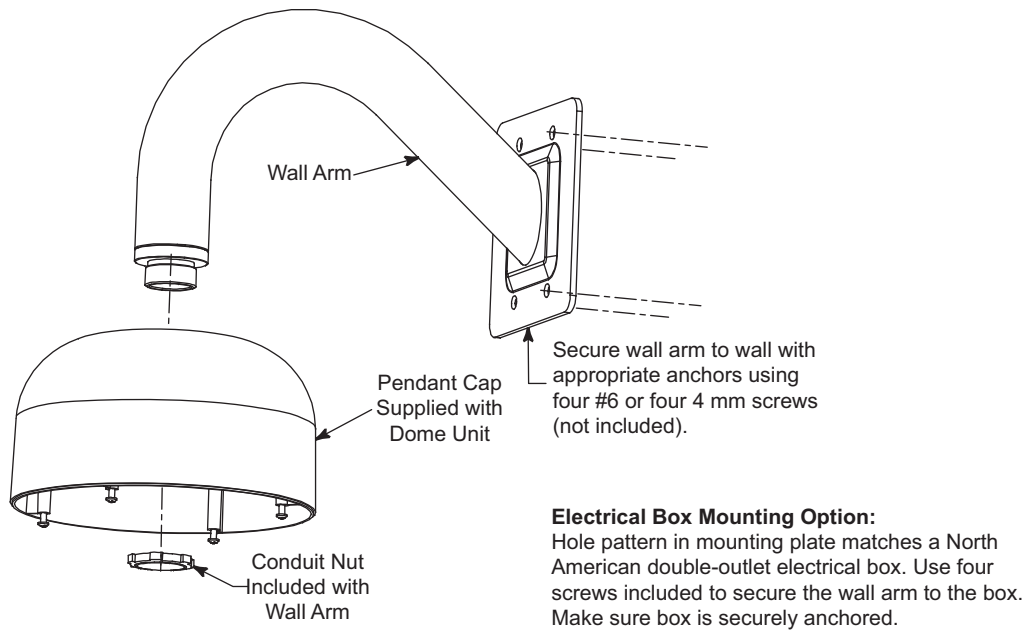

Figure 4 Pendant Wall Mount Installation
2. When wall mounting, route power/video cables through the wall mount. Securely mount the bracket in the desired location using four fasteners (see **Figure 4**) that are appropriate for the type of wall.
3. Feed power/video cables through removable pendant cap and attach cap to mount using the supplied conduit nut (see **Figure 4**).